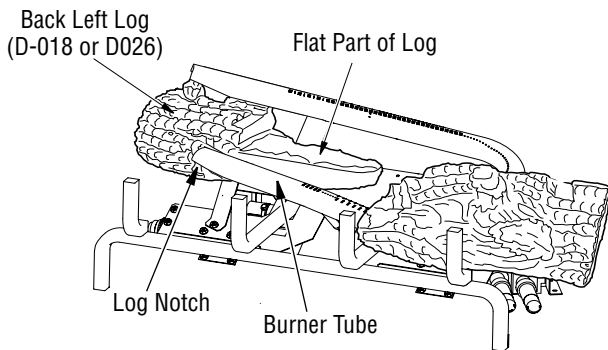

Figure 19 - Installing Back Left Log
2. Find the back left log (SouthernComfort30A/B or ShadyHollow30A/B models: D-018, SouthernComfort36A/B or ShadyHollow36A/B models: D-026). See **Figures 19, 19A, and 19B**. **Figure 19A** shows how the log must fit against the end of the burner. **Figure 19B** shows how the notch in log fits against the vertical portion of the burner tube. Place this log on the base assembly by inserting it from the left side as shown in **Figure 19**. You will need to twist the log slightly to get it to fit against the burners properly. It will rest even with the back edge of the pan.